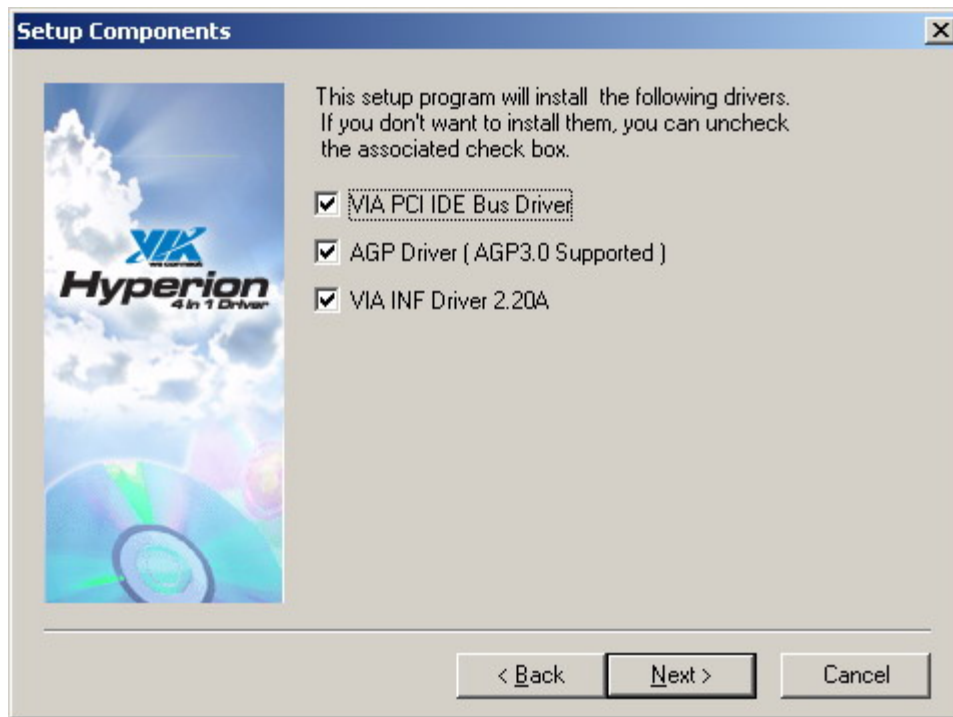

Figure 6-6: Driver Selection
Step 7: The setup then prompts the user (see **Figure 6-6**) to select the drivers that must be installed on the system. There are three drivers: